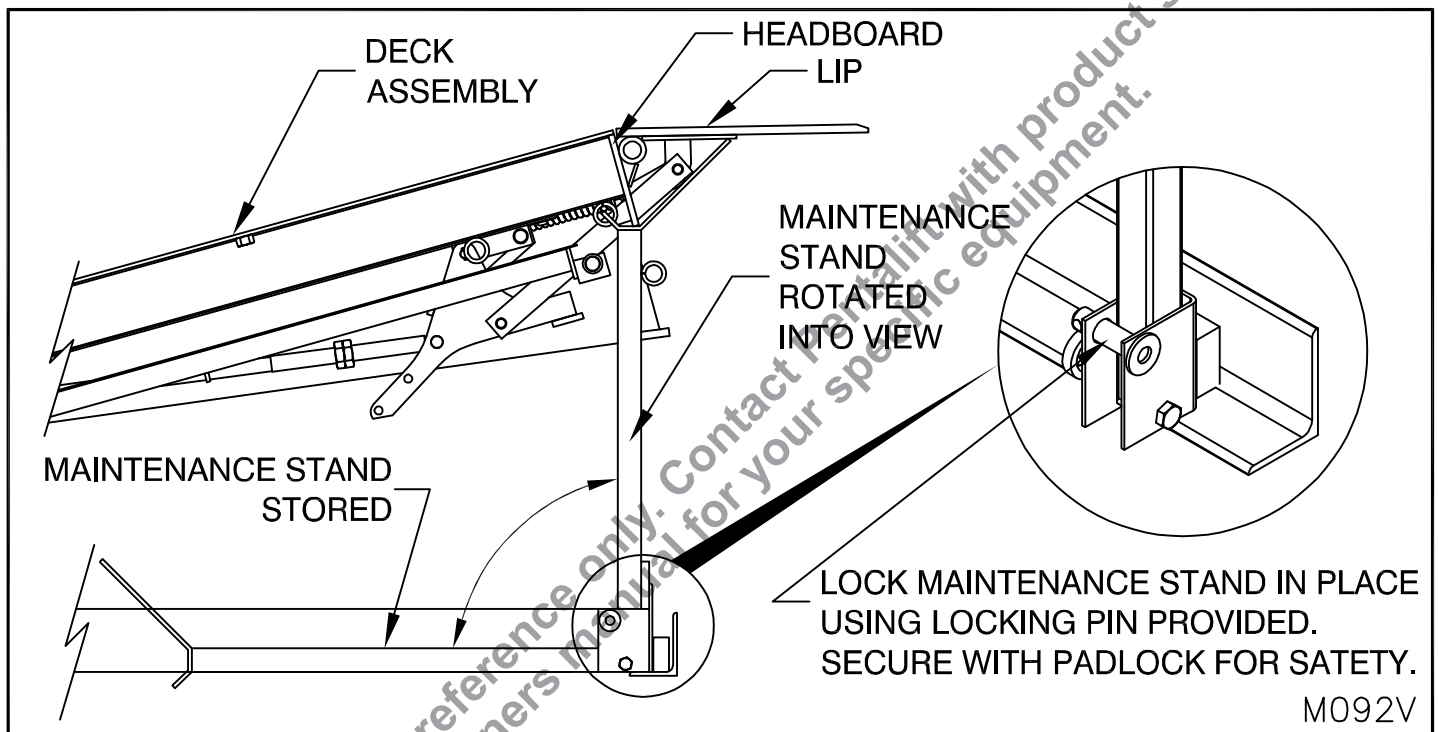
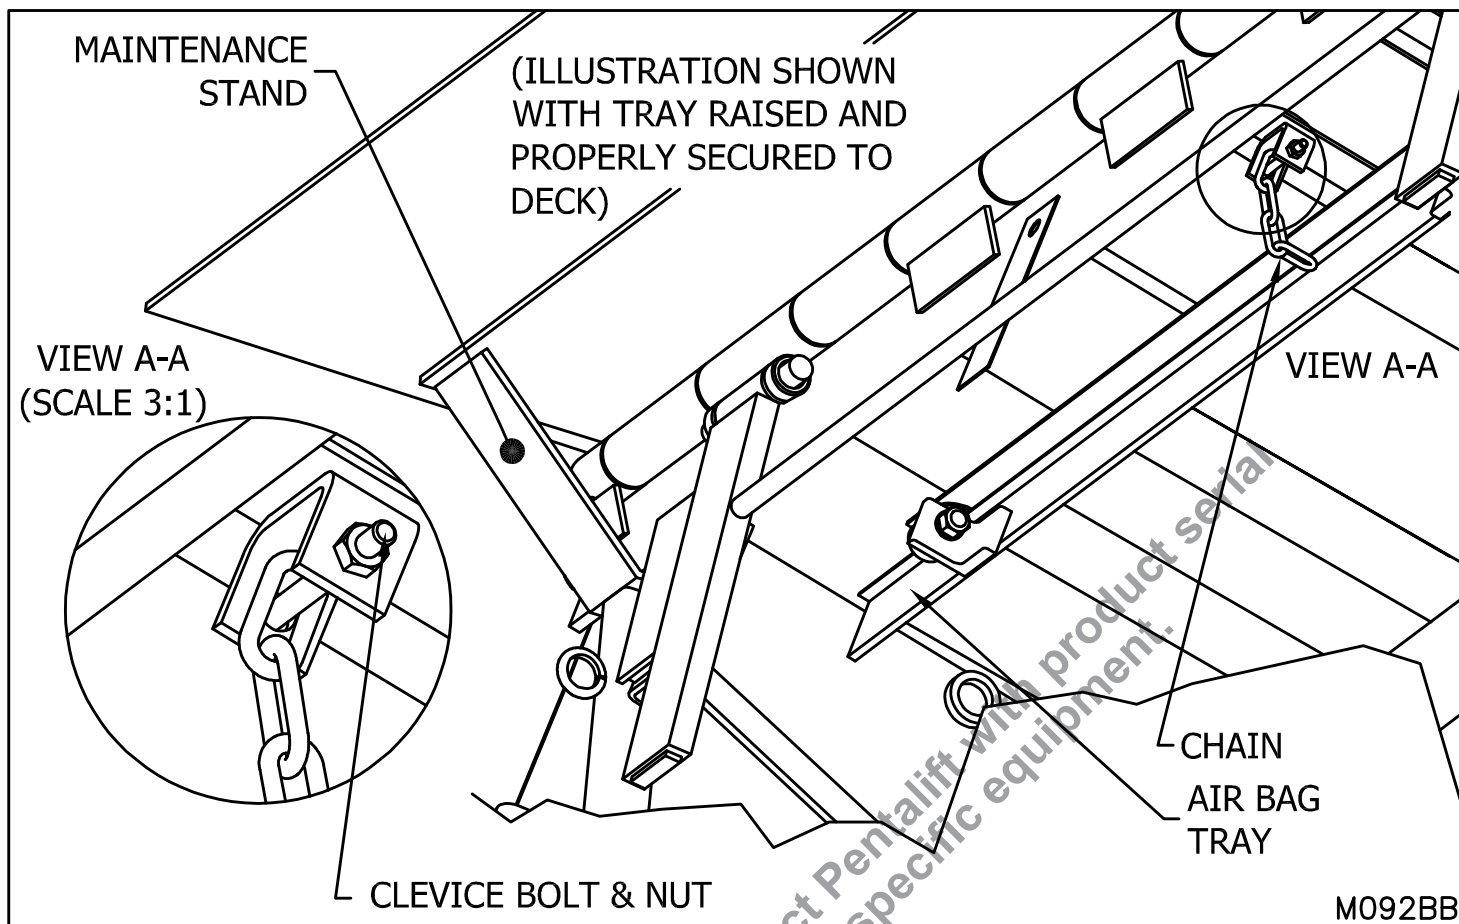

Figure 59: Proper Placement of Maintenance Stand
Figure 51B: Lifting and supporting the Air Bag Tray
See “Figure 59: Proper Placement of Maintenance Stand” on page 52 for the proper placement of the maintenance stand.
2. Facing the front of the Air Powered Dock Leveler locate the Maintenance Stand on left side, pull the Maintenance Stand from the stored position by pulling toward you until the maintenance stand is upright and the locking pin can be inserted and secured with a padlock. Lower the deck assembly until both the deck and lip are supported by the maintenance stand as shown in “Figure 59: Proper Placement of Maintenance Stand” on page 52. If the deck and lip did not properly position, push the raise button to raise the dock leveler and reposition the maintenance stand.
2. When the Air Powered Dock Leveler has been properly secured and locked out, place a suitable lifting device such as a jack with sufficient travel between the underside of the tray and pit floor. Jack to raise the air bag tray so that the clevis bolt and chain can be secured as shown in “Figure 51B: Lifting and supporting the Air Bag Tray” on page 55.
3. Slip the clevis bolt through the chain loop and secure with the nut at the front edge of the tray as shown in “Figure 51B: Lifting and supporting the Air Bag Tray” on page 55.
Quarterly: The air filter must be checked every three months to ensure that it is clean with minimal debris or dirt present. The frequency will depend on the environmental conditions. A dirty filter will prevent the dock leveler from functioning properly. To perform this operation the dock leveler must be properly supported and the tray secured to the underside of the deck (“Figure 59: Proper Placement of Maintenance Stand” on page 52 and “Figure 51B: Lifting and supporting the Air Bag Tray” on page 55).